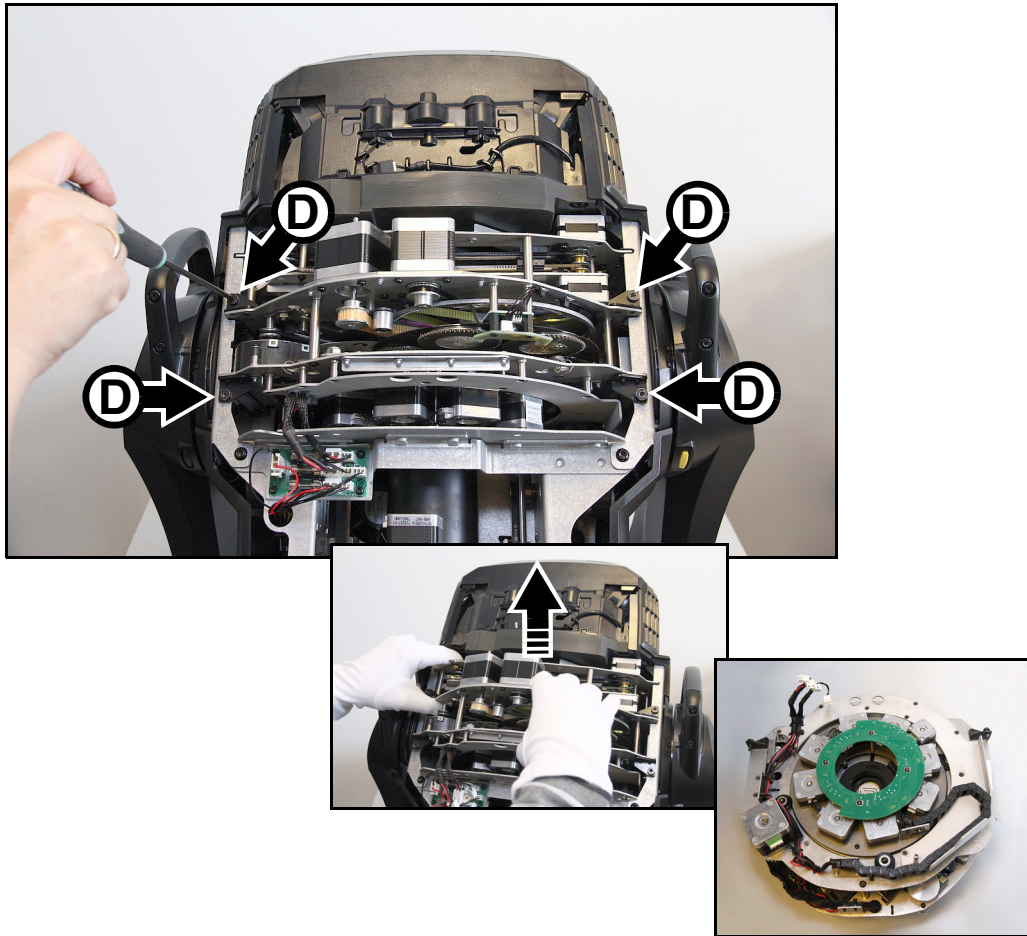

Figure 12: Removing the multi-module
- See Figure 12. Loosen the four Torx 20 screws **D** (arrowed) to release the multi-module, then lift the module out of the head and place it on a work surface as shown in Figure 12.